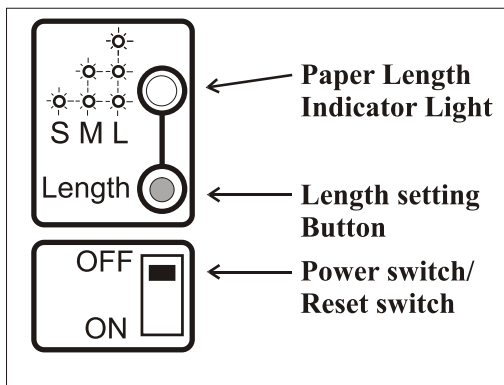

Figure1.
(See Adjust paper length below, figure 1)
**Turn on the unit. Wait for the paper length indicator light to stop flashing** (figure 1). Place your hand under the blue sensor area to advance the paper. If the paper fails to advance, turn the power off, this resets the unit, then turn the power on again. Place your hand under the sensor to advance the paper. Tear off the paper. Close and lock door.